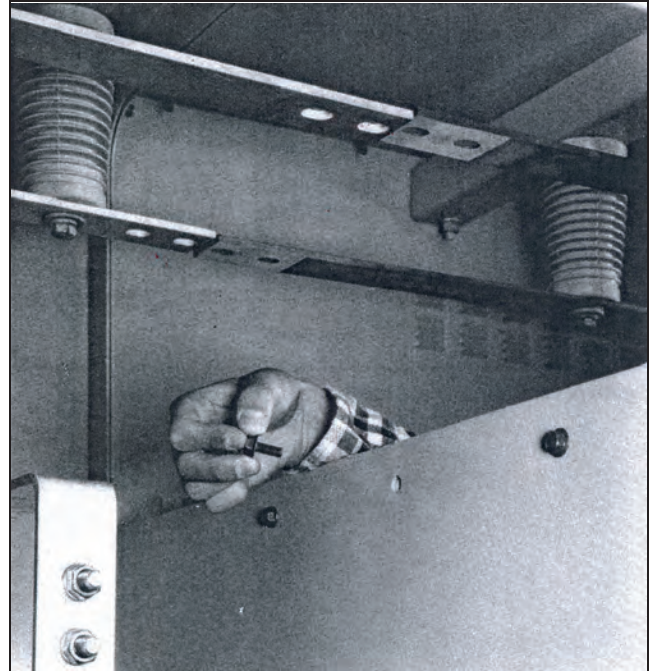

Figure 7. Draw edges of bus openings together, if necessary.
- (a) To facilitate installation of the channel gasket, install and tighten bolts and nuts at the edges of the through-bus openings on adjacent bays using the  $\frac{5}{16}$ -inch hardware provided. See Figure 7.